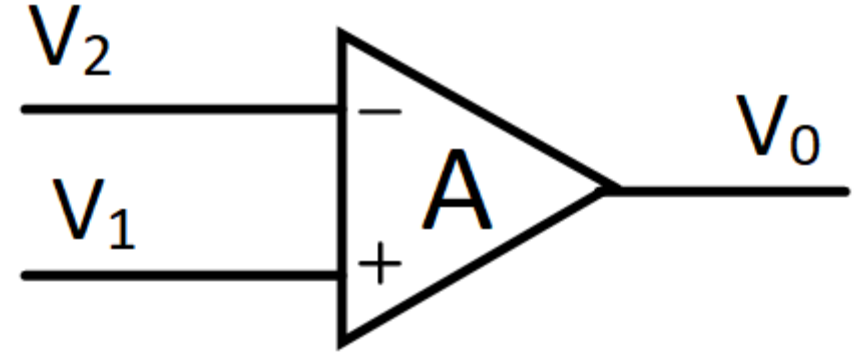

Fig.1. Schematic symbol for the op-amp
- The circuit schematic of an op-amp is a triangle as shown in Fig.1.
From the Fig.1.